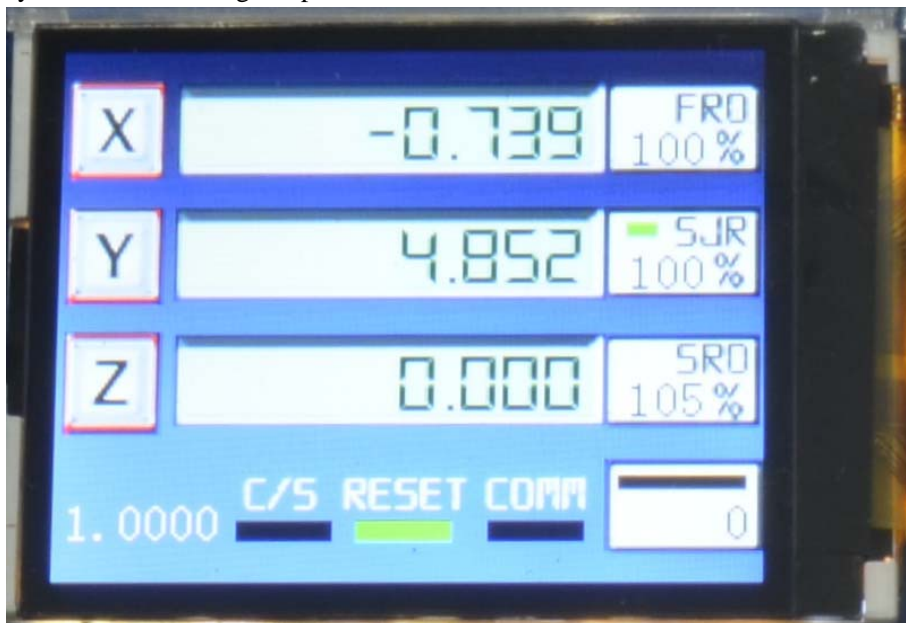

figure 7
- push the key "CON/STEP" to make the block under C/S to black. see as figure 7